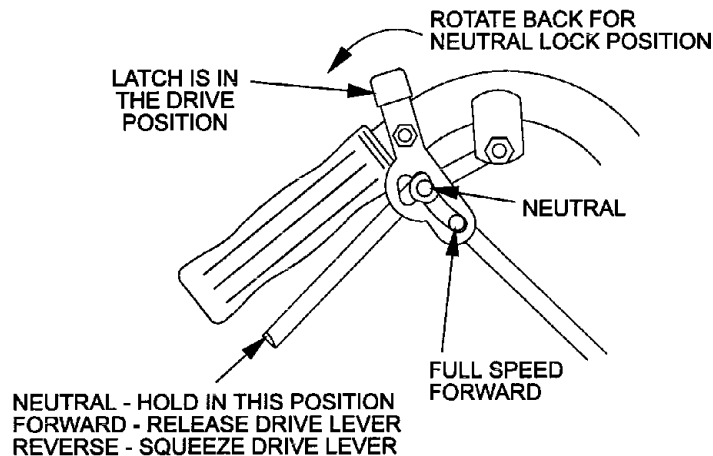

FIG. 8
- 4.1.3 Drive Levers: Located on each side of the upper handle assembly directly below the handle grips (See Figure 8). These levers individually control the speed and direction of each drive wheel. When the speed control lever is moved out of the neutral position and the lock latches are moved into the drive position, as shown in Figure 8, and the drive levers are released, the drive wheels are engaged in the forward direction.
- 4.1.4 Neutral Lock Latch: Located directly above the drive levers. These latches allow the operator to lock the drive levers in a "neutral" position where neither of the drive wheels are engaged in either a forward or reverse direction (See Figure 8).
- 4.3.4 Drive Lever/Neutral Lock Latch Operation: To lock the drive levers in neutral, squeeze the drive levers back to the neutral position (**Do Not** squeeze the drive levers all the way back as this will cause the drive wheels to go into full reverse direction). Place thumbs on the upper portion of the neutral lock latches and move them to the rear. Release drive levers (See Figure 8).